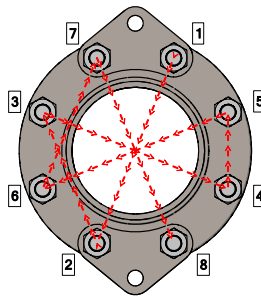

Figure 18: Sample Flange Bolting Torque Pattern
Step 6: Once the expansion joint and limit rod plates are in place tighten all bolts to a “snug” tight fit before they are torqued. Torqueing should then be accomplished in steps gradually and as evenly as possible around the flange. The bolts should be tightened in an alternating sequence similar to the star pattern shown in Figure 18 to within the proper torque range specified for the style of expansion joint to be installed. The bolts are not considered tight and “locked-on” until the edge of the expansion joint flange bulges out or extrudes slightly. Refer to Appendix A for the proper ranges of torque values for the spool type expansion joints as well as further examples of the proper patterns used for torqueing the flange bolting. The use of stud bolting is acceptable as long as no more than 2-4 threads extend past the nut facing the expansion joint. Excessive amounts of threading extending toward the expansion joint can cause damage to the expansion joint as it expands resulting in a reduced service life and an increased possibility of failure.